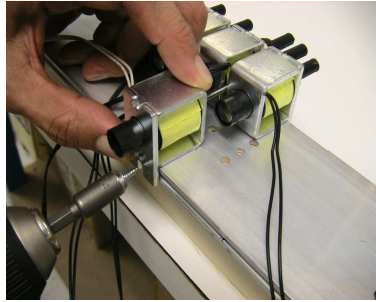

Figure 10B
- F.** Now place a long stem solenoid on the solenoid rail spacing the stem between the top row solenoids. Hold the solenoid firmly and place a (10mm) screw in solenoid mounting slot. Install the appropriate number of long stem solenoids on the solenoid rail. (See figure 10b)